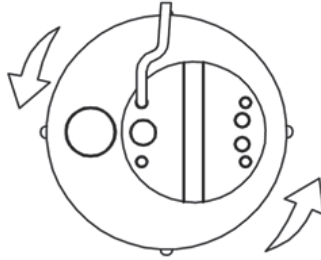

Fig.2 CAUTION! ALWAYS FOLLOW THE SAFETY REGULATIONS
3. Carefully observe the kick-back on starting, looking at the pump from above. If the direction of rotation is correct, the upper cap will turn counter-clockwise as indicated by the arrows in the drawing (Fig. 2).